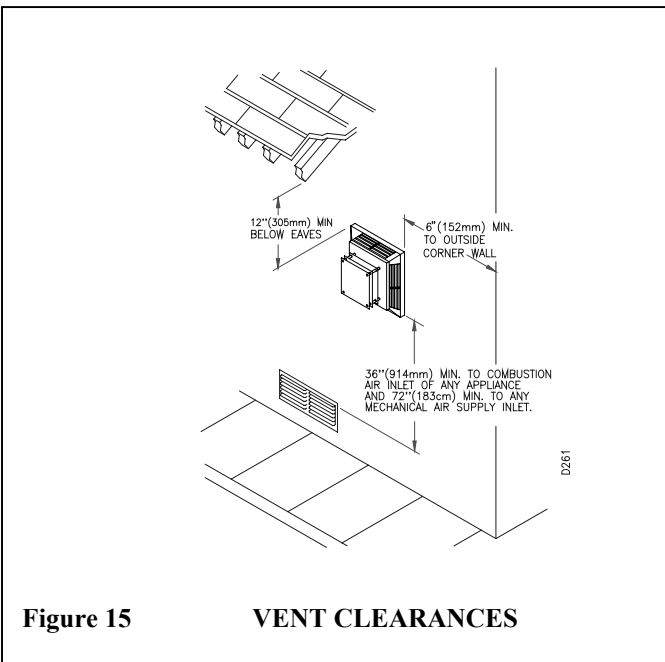
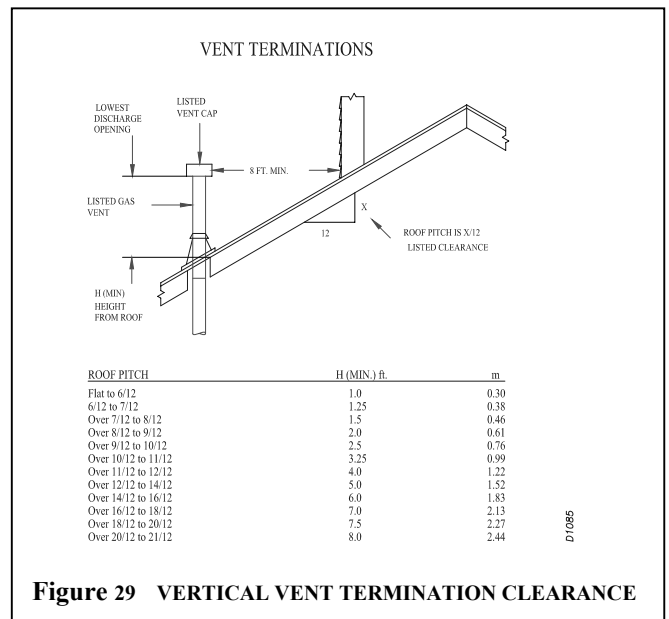
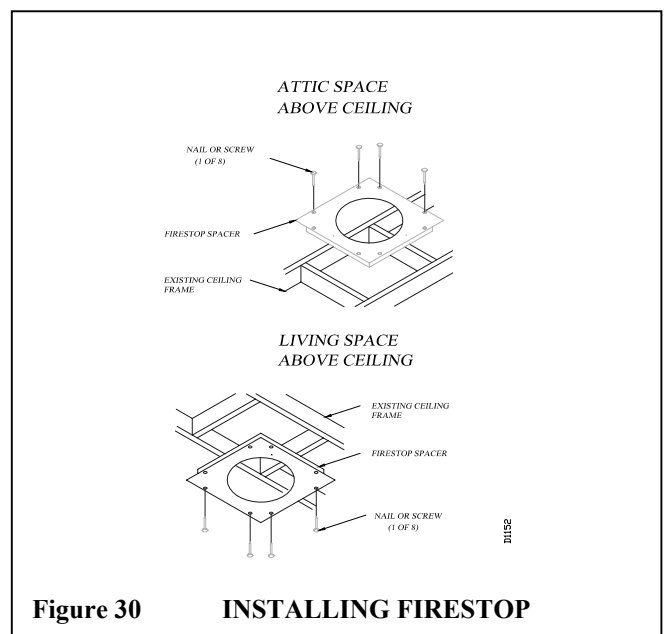

Figure 15 VENT CLEARANCES
Figure 29 VERTICAL VENT TERMINATION CLEARANCE
Figure 30 INSTALLING FIRESTOP
Do not pack required air spaces with insulation. Also note maximum vertical rise of the venting system and any maximum horizontal offset limitations. Offsets must fall within the parameters shown in Figure 29.
1. Cut a 12 1/2" hole in the ceiling using the locating hole as a center point. The opening should be framed to a 12 1/2" x 12 1/2" (317.5mm x 317.5mm) inside dimensions, as shown in Figure 29 using framing lumber the same size as the ceiling joists. If the area above the ceiling is an insulated ceiling or a room, nail firestop from the topside. This prevents loose insulation from falling into the required clearance space. Otherwise, install firestop below the framed hole. The firestop should be installed with the flanges set into the framing and secured with no less than three nails per side (see figure 30).
6. Continue to add pipe section(s) until the height of the vent cap meets the minimum building code requirements described in figure 15. Note you must increase the vent height for steep roof pitches, nearby trees, adjoining rooflines and other adjacent factors, which may cause poor drafting or a down-draft condition (see figure 29). Increasing the vent height may solve this problem.